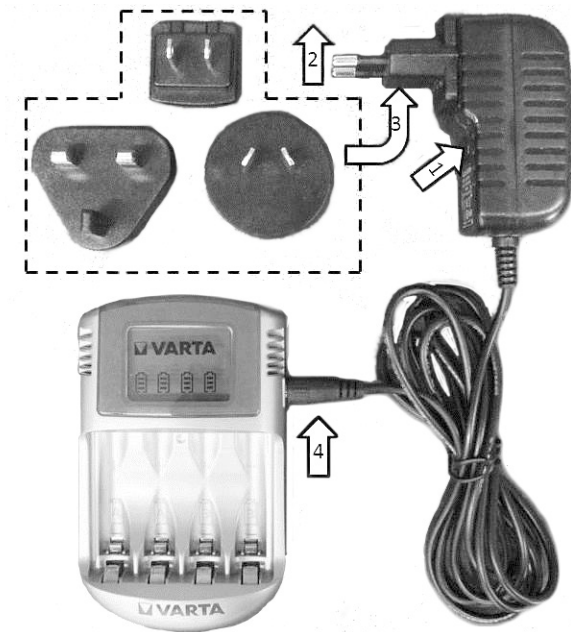

Fig. 3-2 Exchanging the connector, connecting the charging unit
- push the button below the connector and hold it depressed (1, Fig. 3-2)